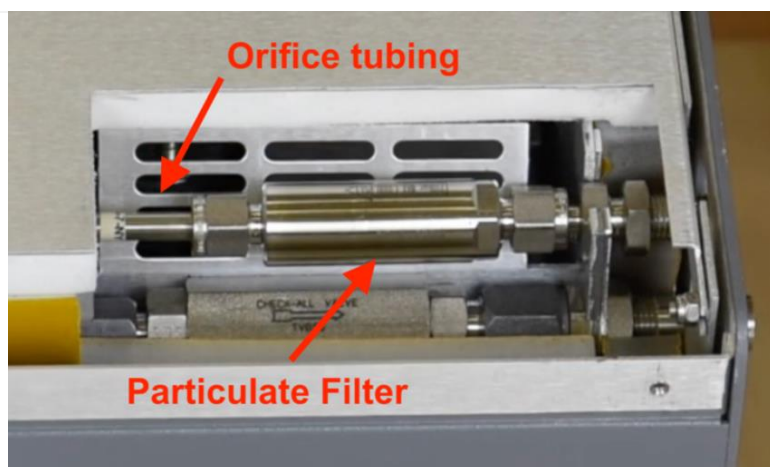

Figure 200. Foam cover removed.
STEP 10 | Removing the foam cover exposes the internal particulate filter and critical orifice fitting (**Figure 200**). These can be hot, exercise caution when handling these components